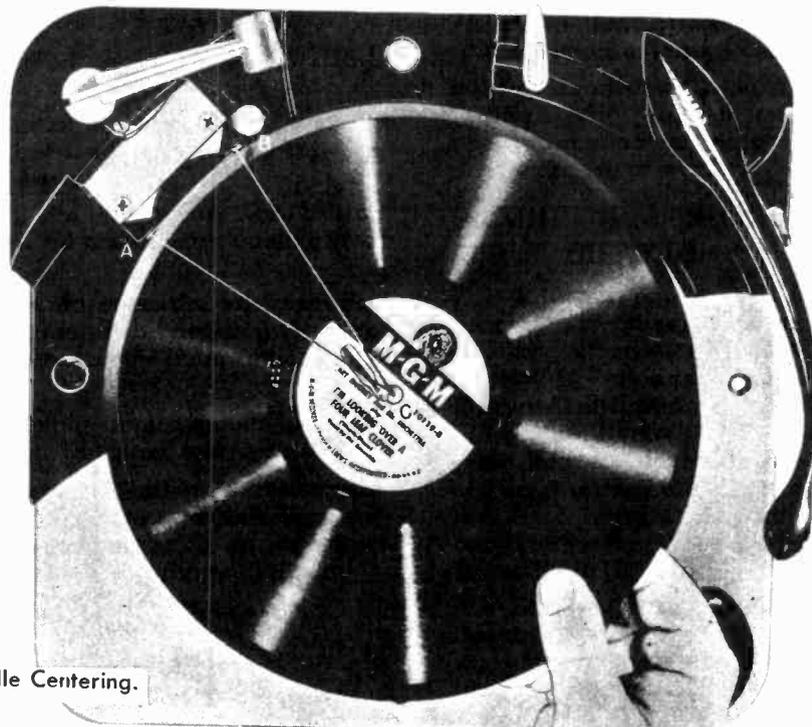

Fig. 15. Checking Spindle Centering.
- b. A bent spindle will cause center hole wear due to impeded record injection. To check the spindle position, place a 10" record as shown in Fig. 15. If the spindle is properly centered, a triangle will be formed with the metal ends of the record shelf plate.